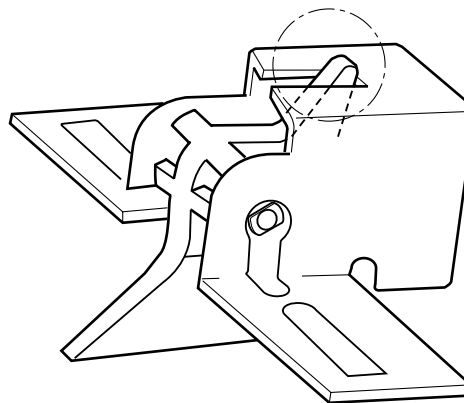

Figure 6-220
- a. Make sure that the boss on the upper separation claw is in contact with the mount as shown in Figure 6-220.